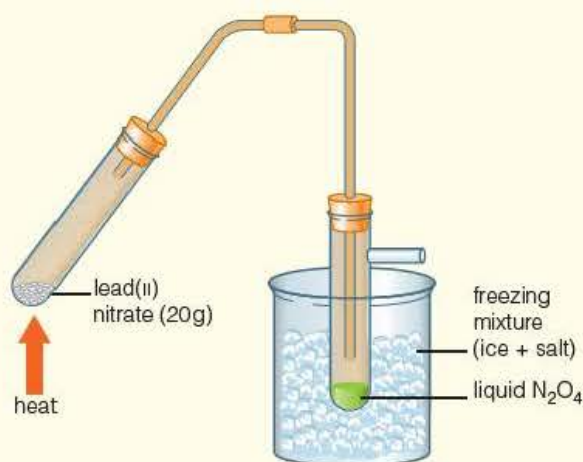

Figure 10.10 ▲
- 1 Give the oxidation states of all the elements in: **a)** lead(II) nitrate, **b)** lead(II) oxide, **c)** nitrogen dioxide, **d)** N_2O_4 and **e)** oxygen gas.
- a)** lead(II) oxide from lead(II) nitrate
- b)** nitrogen dioxide from lead(II) nitrate
- c)** oxygen from lead(II) nitrate
- a)** the decomposition of lead(II) nitrate
- 4 Calculate the theoretical mass of N_2O_4 that could be collected by condensing the gases given off when 20 g lead(II) nitrate decomposes.
- 5 Suggest reasons why the mass of N_2O_4 collected by heating 20 g lead(II) nitrate in the apparatus in Figure 10.10 would be less than your answer to question 4.